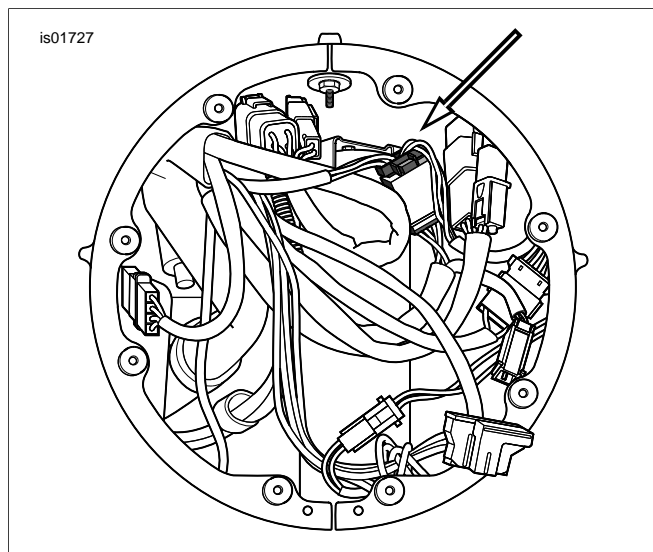

Figure 10. Front Turn Signal Connector (FLHR/C/S)
2. See Figure 10 and Table 1. Locate and separate front turn signal connector inside nacelle. Note wire color and cavity locations.